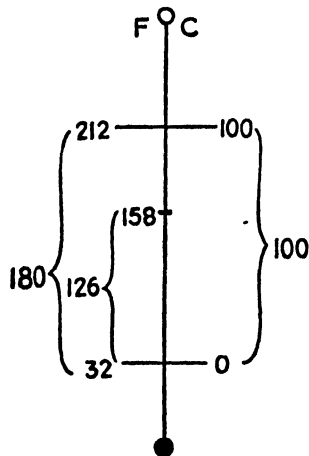

FIG. 69.
- (a) Draw a rough diagram (fig. 69) showing freezing-point and boiling-point on the two scales.